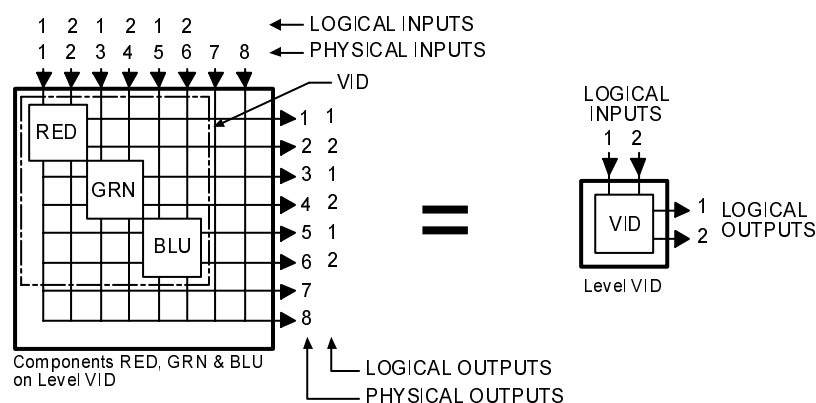

Figure 2 The Components of a 2x2 RGB Level
A component is the most basic signal element which can be switched by a single crosspoint. For example, in RGB video, “Red”, “Green”, and “Blue” are components; in stereo audio, “Left” and “Right” are components. The example shown in Figure 2 is a 2x2 RGB video level named VID, which is made up of three components named RED, GRN, and BLU.
1. Enter the component name in the **Component Name** box. Component names are one to eight characters in length and are constructed using uppercase letters, numbers, and spaces. The first character must be a letter. For the example shown in Figure 2, “RED” would be used for the first component, “GRN” for the second and “BLU” for the third.
2. Select the level this component will be associated with from the **Level** drop box. For the example shown in Figure 2, “VID” would be used for all three components.
5. Enter the amount of **Input Offset** and **Output Offset**. For the example shown in Figure 2, “0” and “0” would be used for the component “RED”; “2” and “2” would be used for the component “GRN”; and “4” and “4” would be used for the component “BLU”.